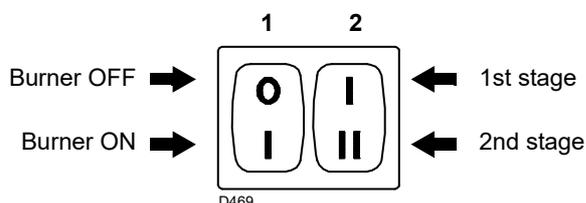

Fig. 28
- switch 1)(Fig. 28) to the "Burner ON" position;
- switch 2)(Fig. 28) to the "1st stage" position.
Now turn switch 2)(Fig. 28) to the 2nd stage position: the servomotor will open the air damper and, at the same time, the gas butterfly valve at 90°.
Turn switch 2) Fig. 28 on page 25 to the 1st stage position: the servomotor 1) will close the air damper and, at the same time, will also close the gas butterfly valve to 15° (i.e. to the factory setting).
- If it is necessary to increase it, pass to 2nd stage by activating switch 2) Fig. 28 on page 25 and slightly increase the angle of the orange lever with small, regular movements (i.e. bring it from an angle of 40° to 42° - 44°....).